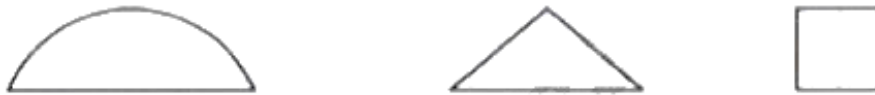

Figure 3
- 11 **Figure 3** below shows three sections of files. Select the correct set showing the names of the files correctly.